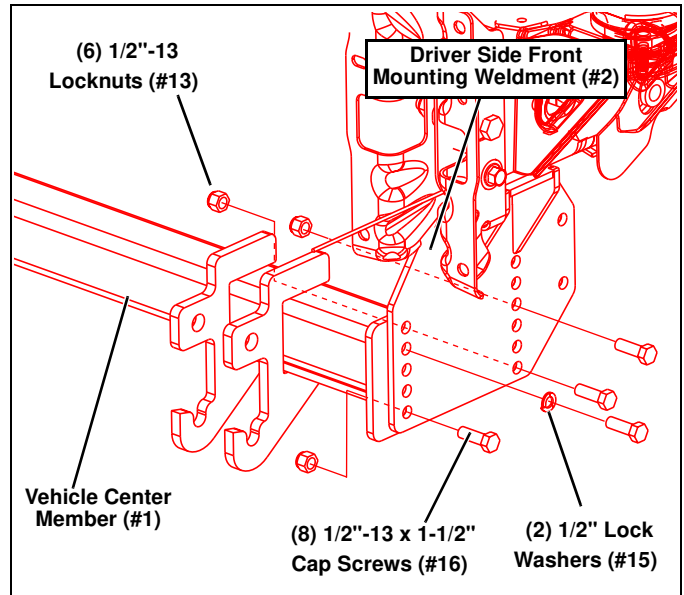

Figure 8
- Install the Vehicle Center Member (#1) between the Driver Side Front Mounting Weldments (#2 and #3) using (8) 1/2"-13 x 1-1/2" Caps Screws (#16), (2) 1/2" Lock Washers (#15), and (6) 1/2"-13 Locknuts (#13). (See Figure 8.)